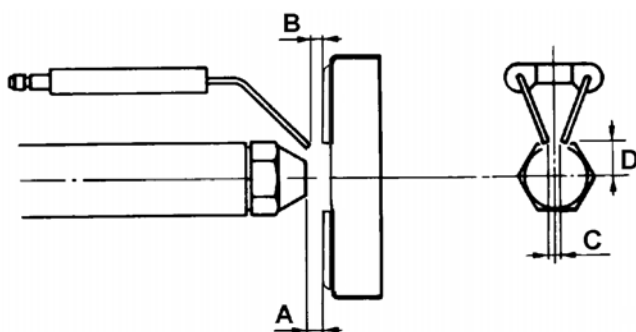

Fig. 21a - Burners G4 and G6
Rotate the screw VBS clockwise or anticlockwise, by means of a screwdriver, depending on the need to develop the minimum or maximum output. In case of replace of the combustion head, set to default value to the position indicated in Fig. 21a and Fig. 21b, respect to the nozzle end.
- Examine the ignition electrodes and their ceramic insulators, adjust and replace if necessary (see Fig. 21a and Fig. 21b).